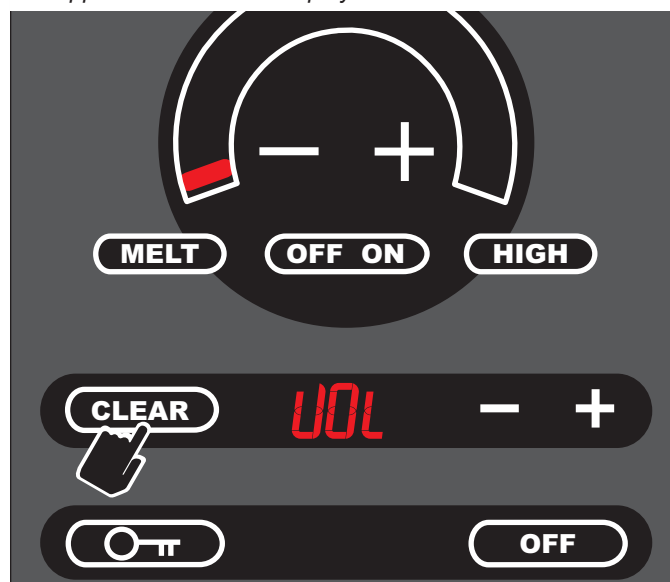

Figure 3-11. Annunciator Volume.
To exit Showroom Mode from Diagnostic Mode, press and hold the front element MELT key for 5 seconds. The controls will exit the Showroom Mode (See Figure 3-11). The Controls will go through the start up sequence to indicate that the Showroom Mode has been exited.
1. Pressing and holding the CLEAR key for three seconds, will activate the Volume adjustment. The 3-digit display (Timer Display) will show "Vol" (See Figure 3-11).